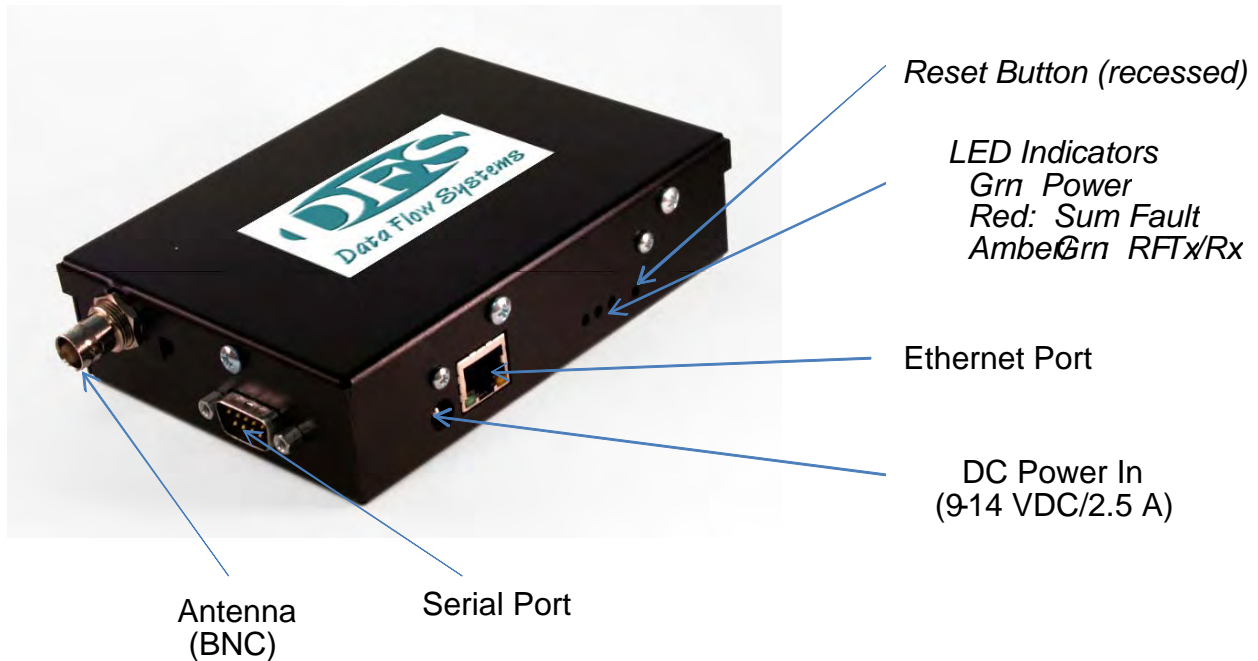

Figure 1: VDR Connections
2. Locate the coaxial cable to the antenna. This should be a good quality, low-loss cable that is as short as possible. This cable should include an in-line surge arrestor to prevent lightning strike damage to the radio. The cable should have a BNC (F) connector or an adapter will be needed. See the DFS Website for ordering information, if one is needed.
3. Locate the power source. The VDR requires a 9-14 VDC input and draws about 1.5 A (when transmitting). Power is supplied via the serial port (Pins 5 and 9) or alternatively via the 2.5 mm connector on the side of the unit (See Figure 1).
7. **The default IP address of the VDR is 192.168.1.4.** This address is automatically loaded in the Connect to field at the top. Click on the GET button at the bottom if this default address is still loaded in the VDR and not been changed. **Note: Pressing and holding the recessed Reset button (See Figure 1) for at least 12 seconds will force the radio back to its default settings. The default radio IP address is 192.168.1.4.**